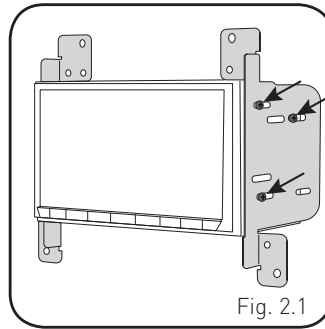

Fig. 2.1
12. Mount the metal brackets to the aftermarket radio using the screws supplied with the radio. (Fig. 2.1)